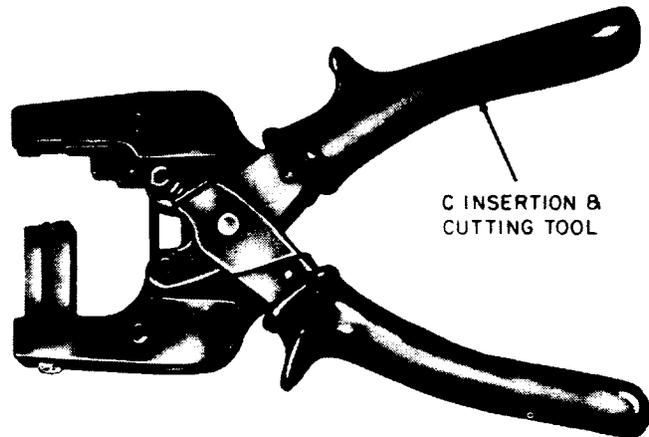

Fig. 25—AT-8764 Insertion Cutter Tool
**2.27 AT-8764:** The AT-8764 insertion cutter tool (Fig. 25) is used in splicing, one pair at a time, in both the old and new 710 connectors.